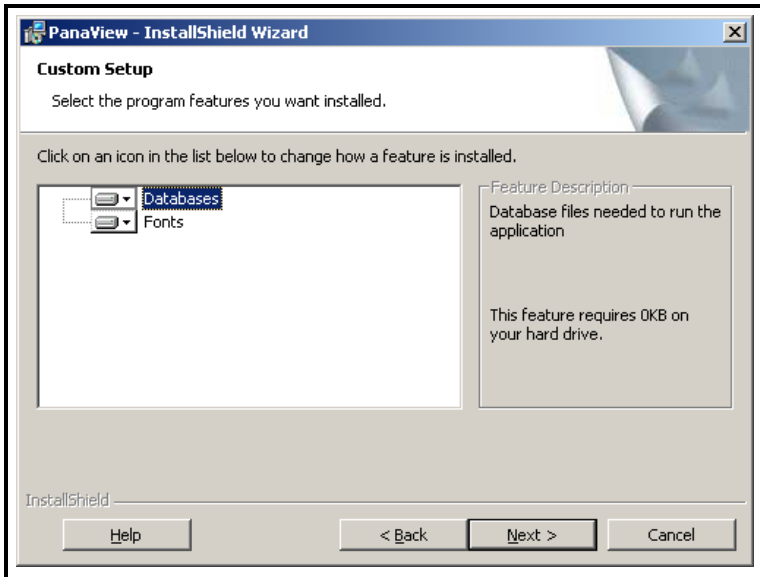

Figure 2-8: Select Program Components
- a. Highlight either “*Databases*” or “*Fonts*” in the left pane of the “*Select Components*” window in Figure 2-8 below.